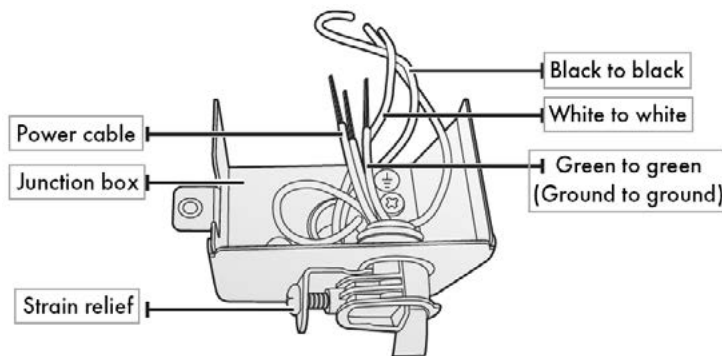

Figure 15
2. In the junction box located at the front bottom right of the dishwasher, find the three power wires from the dishwasher, including the green grounding line (Figure 15).